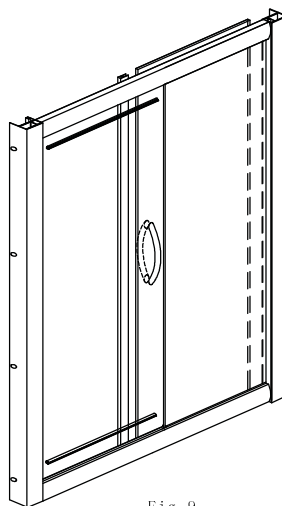

Fig. 9
(ENG) Install the handle (7), long water proof strips (16) and magnet strips (12) with sliding door correspondingly. Fix the decorated strips (15) in the rail. As Fig. 9 & 10